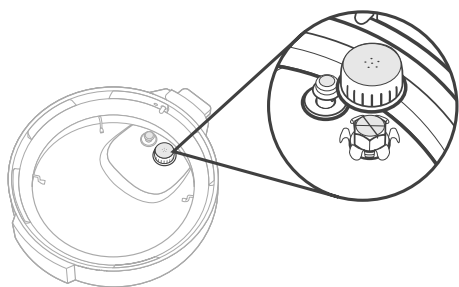

Figure 10.2
- b. Remove the anti-block shield by gripping it from either side, then pulling it up. **[Figure 10.2]** Rinse and dry the anti-block shield and replace it inside the lid.